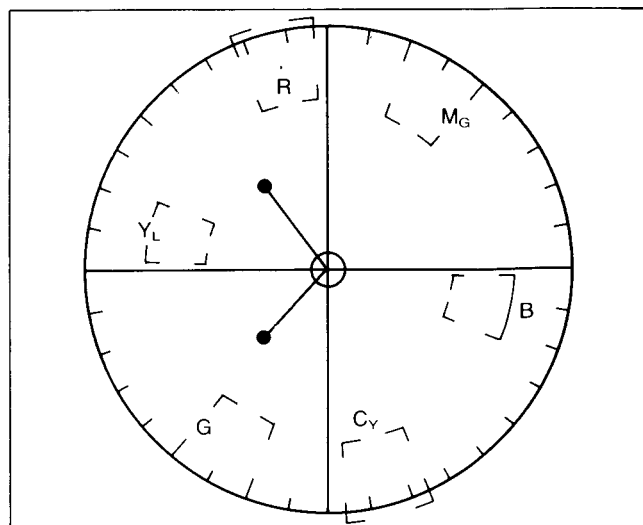

Fig. C14
- (1) Connect a jumper wire between TP4, TP5 and TP6.
- (2) Aim the camera at the White Chart.
- (3) Supply the video signal to the vectorscope.
- (4) Adjust the White Balance Controls (VR322 and VR323) so that the colour vectors are collected at the center of screen on the vectorscope as shown in Fig. C14.
- (5) Remove the jumper wire between TP4, TP5 and TP6.